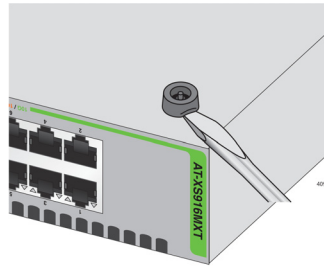

Figure 18. Removing the Rubber Feet
3. Using a flat-head screwdriver, remove the rubber feet from the bottom of the switch. See Figure 18.